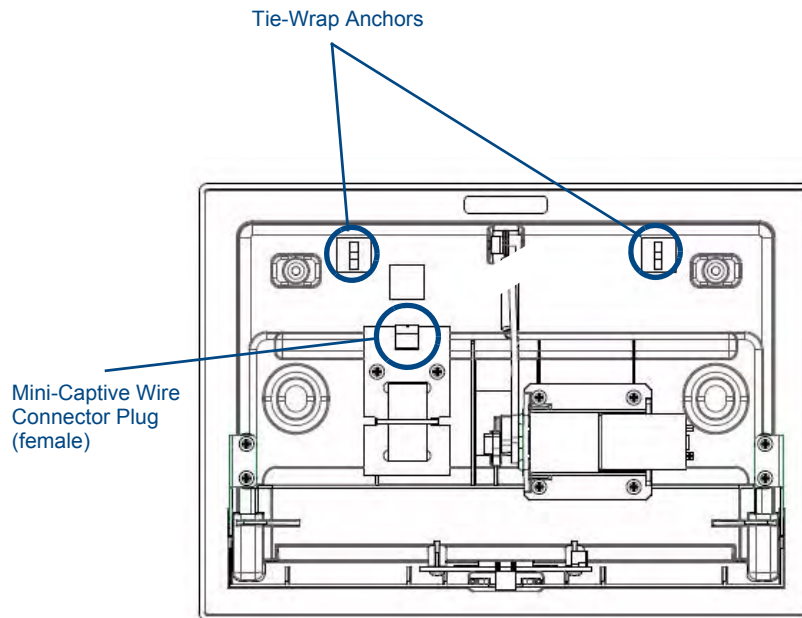

FIG. 12 MVP- WCS-52 - Rear
- Secure the power cable to the device, using either of the two tie-wrap anchors included in the Installation Kit at the top rear of the device (FIG. 12). Point the head of each tie wrap toward the center of the device.